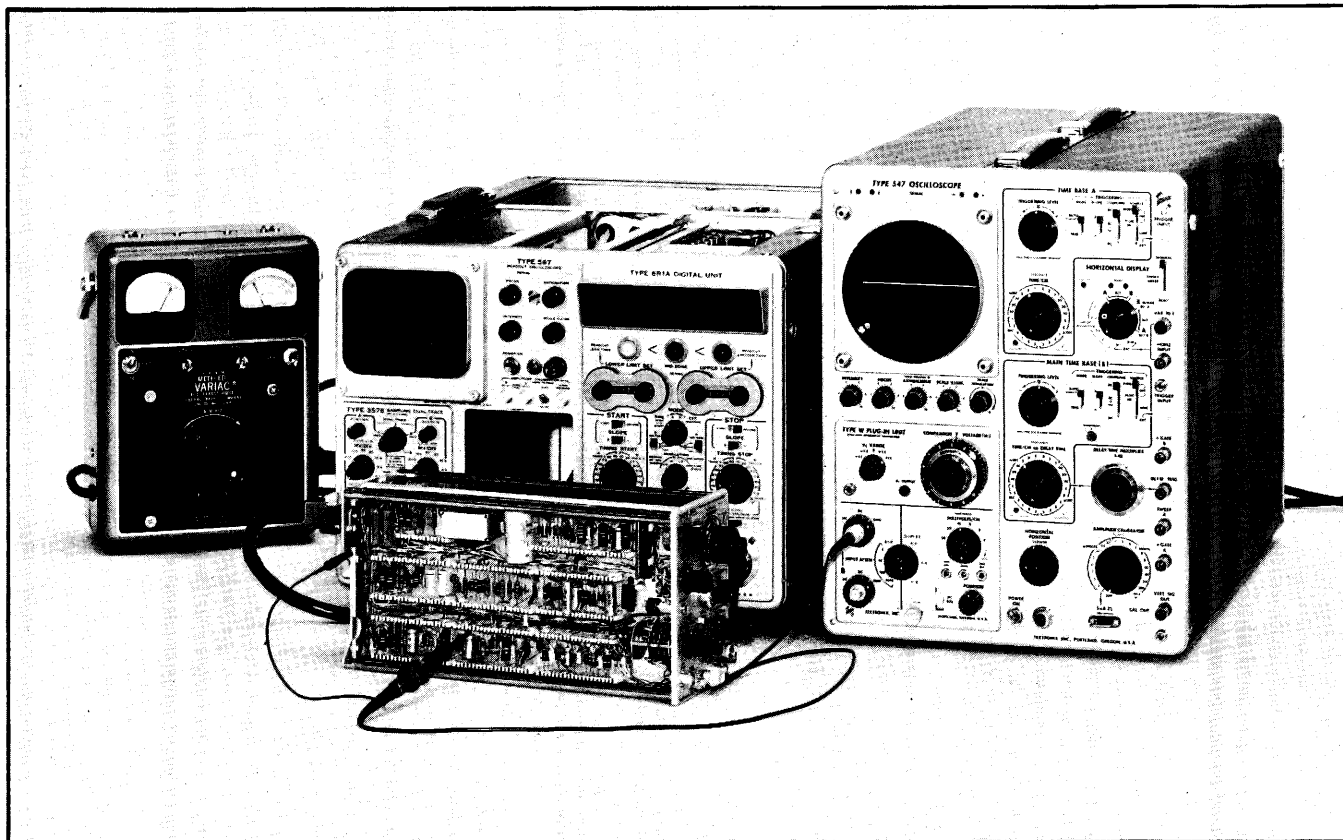

Fig. 5-3. Test setup for checking +19- and -19-volt supplies.
Connect the P6028 1× Probe to the Type W Unit Channel A input connector. Connect the probe ground clip to the Type 3T4 rear panel near V294, as shown in Fig. 5-3.
a. Set up the equipment as shown in Fig. 5-3, using the plug-in extension cable to make connections between the